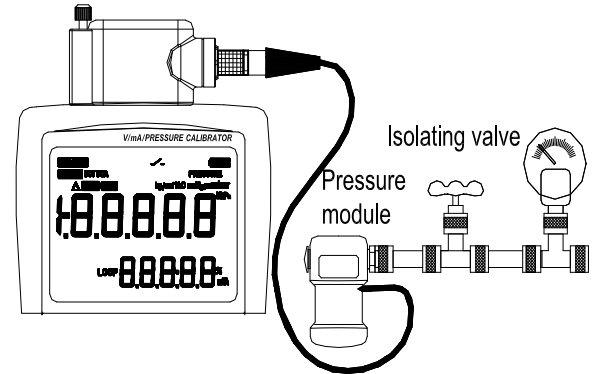

Figure 12 Measuring pressure
Step 1: Connect the pressure module and calibrator as shown in Figure 12. The screw of the pressure module